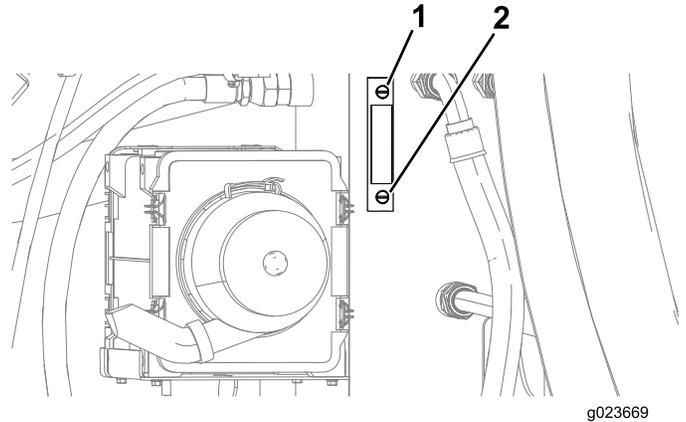
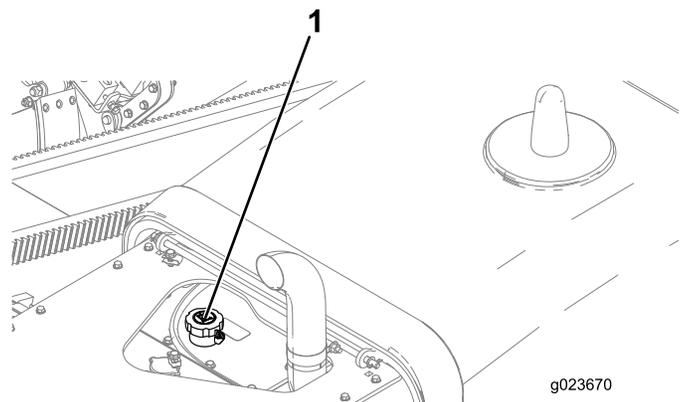

Figure 116
Figure 117
4. Look at the sight gauge on the hydraulic tank and check the level of the oil (Figure 116).
5. If the level is low, open the hydraulic-tank cap (Figure 117), add a small amount of oil and wait 2 minutes for the oil level to stabilize in the sight gauge (Figure 116).